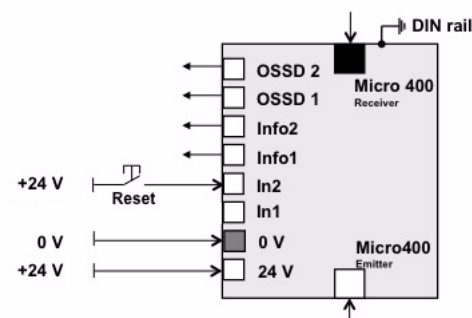

Figure 4: MSR41 Base module, Micro 400 LightCurtain, manual start, no output monitoring
- to the two safety PNP outputs (OSSD) of the base module (e.g. Figure 4)